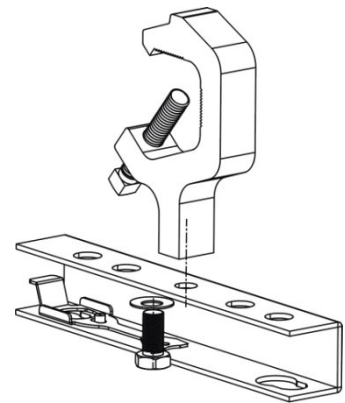

Figure 4: Truss Hook Installation
Step 1. Install truss hooks on two provided truss hook brackets as required as shown in **Figure 4**.